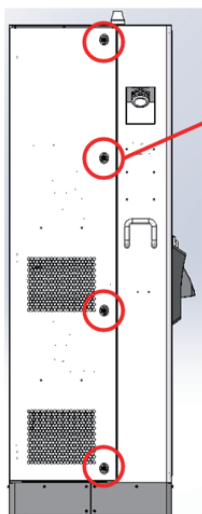

Figure 4
1. Use the 4# anti-theft hex wrench to remove the left side locking screw and open the left door, as shown in Figure 4.